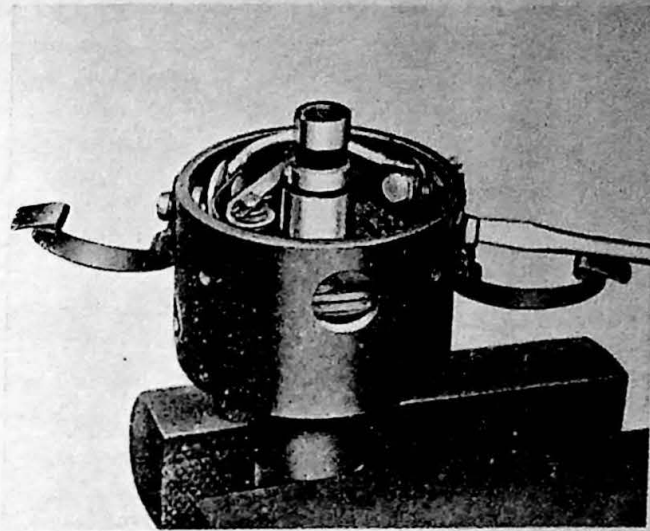

Fig. 10-54. Removing the contact breaker plate
4. Remove the contact breaker plate. This is done by unscrewing the two screws which hold the distributor cap retainers, Fig. 10-54.